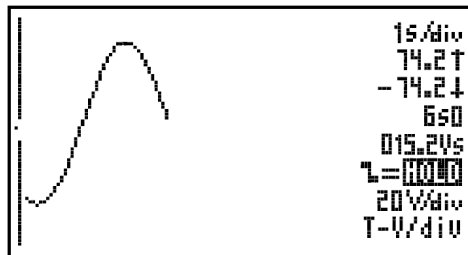

Fig 25
- At 1s/div timebase or slower, the readouts are forced to the instant information. ‘Vs’ (Fig. 25)
Press the ‘Probe x1/x10’-key to set the measurements accordingly the x1/x10-probe setting. (Fig. 25)
- Bij 1s/div tijdsbasis of trager wordt enkel de ogenblikkelijke waarde weergegeven. 'Vs' (Fig 25)